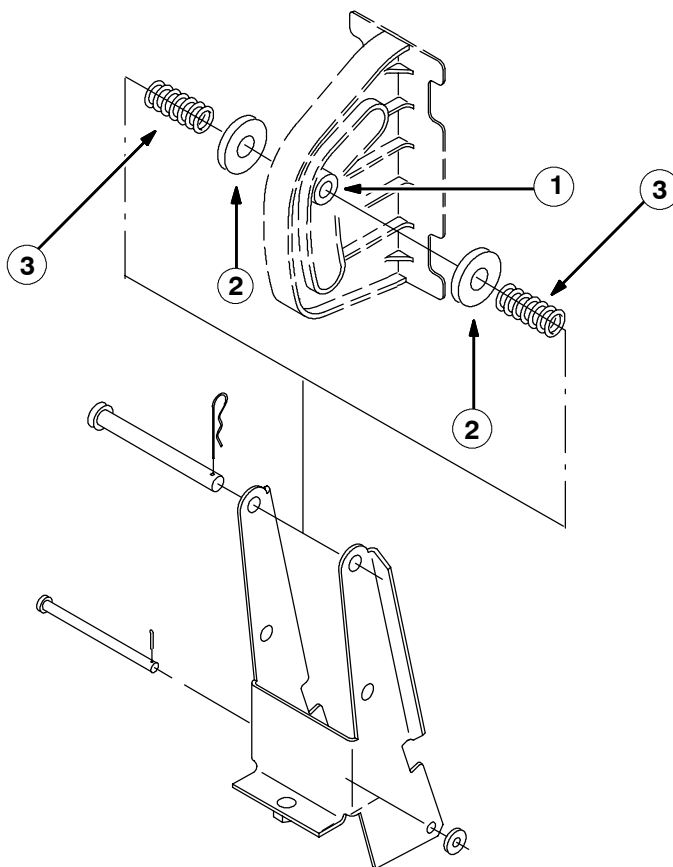

FIG. 2 - New Roller Installation
(Refer to FIG. 2)
3. Reinstall the clevis pin through the new roller and roller bracket with a washer (2) and compression spring (3) on each side of the roller bracket. The washers should be oriented on either side of the roller bracket, with the springs on the outside of the washers, when properly installed. (Refer to FIG. 2)
4. Reinstall the cotter pin in the end of the clevis pin to secure the assembly. (Refer to FIG. 2)